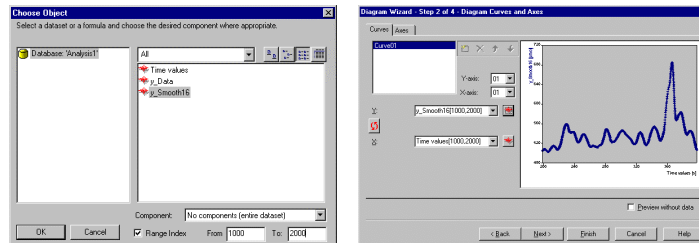

Figure 4.6: Curve section defined by the Range Index
*Note:* If we activate the check box *Range Index* and enter for example *From 1000 To: 2000*, the dataset name would be expanded automatically by *[1000,2000]* for internal usage and only this range of values specified by the index would appear in the diagram (Fig. 4.6). If you have done this, you should cancel the *Diagram Wizard* afterwards, start it again right away and do the first steps again.